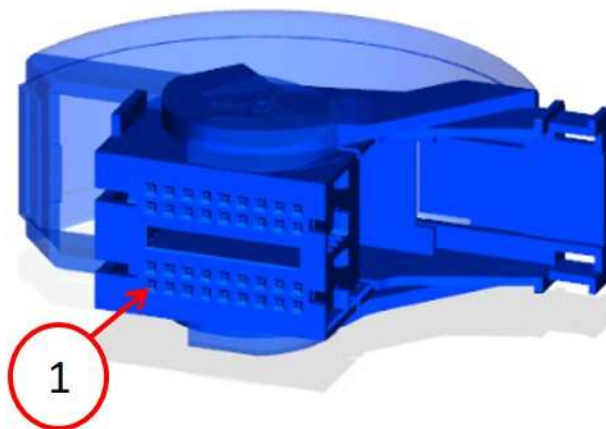

Fig. 3
9. Connect the other end of the jumper wiring harness to cavity number one (F944) on the HVAC control module connector D3828A (Fig. 3) .